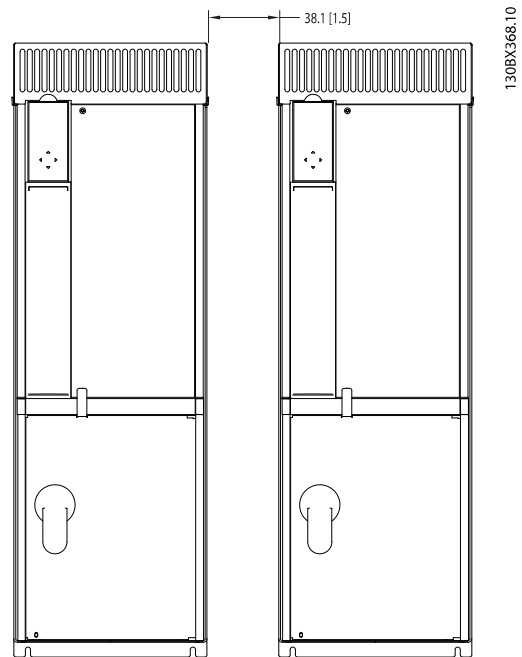

Figure 3.2 Side Cooling Clearance
- Most panels may be mounted side-by-side without additional side clearance. However, the P2 (B3 frame size) units require 1.5 in. minimum clearance between units (see *Figure 3.2*).